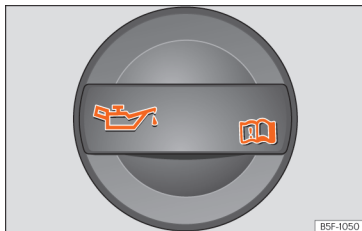

Fig. 195 In the engine compartment: Engine oil filler cap.
- Unscrew cap from engine oil filler opening »» **Fig. 195**.